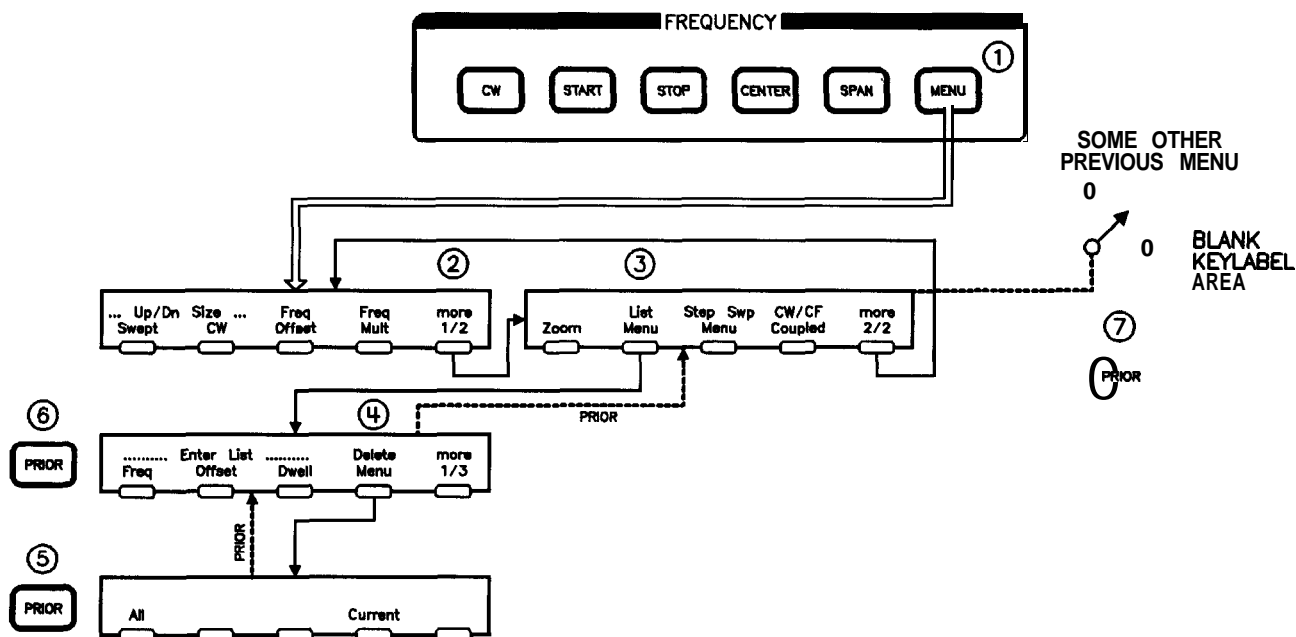

Figure P-1. How **PRIOR** Works
**Description** This hardkey lets you view previous menus. All menus visited from the last preset are remembered and displayed in a “last-visited-first-seen” order. Refer to Figure P-1, and follow the arrow paths as indicated.
The sequence of keystrokes that created the movement shown in Figure P-1 is: